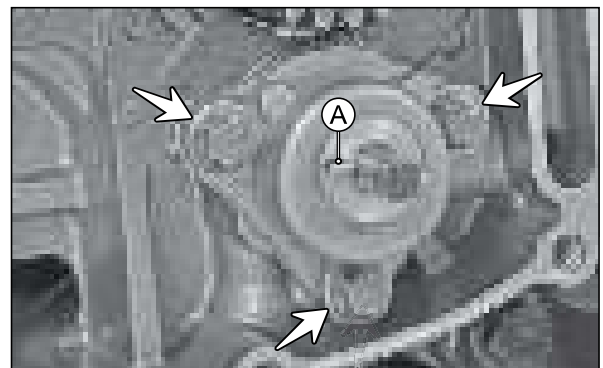

Fig. 3.123
- Remove the pin oil pump driven gear (A). (Fig. 3.123)
- Remove hexagonal flange bolt (3 Nos.) from the pump assembly oil and pull out pump assembly. (Fig. 3.123)